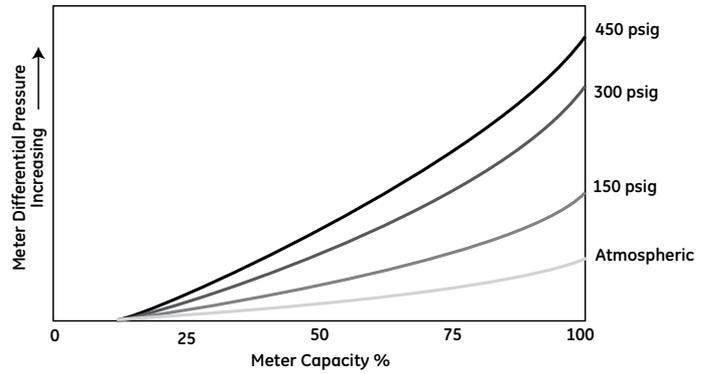

Figure 17 - Differential Curves change as pressure increases.
Developing an original differential baseline curve is recommended at the time of meter initial installation. Since an increase in flow rate, line pressure or specific gravity will cause an increase in the differential, at least three (3) test points are required at gas flow rates from 25% to 100% of meter capacity. As shown in Figure 17, the resulting data points will be non-linear, so a minimum of three points is necessary to establish a curve. Plot the points on a graph and then connect the points to form a curve. This provides an accurate baseline for comparison to later tests. To help with record keeping, a chart like the one shown in Figure 18 will allow the technician to compare new test data to older data.